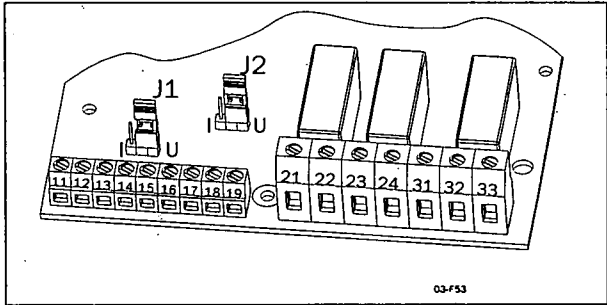

Fig. 38 Setting voltage or current for analogue input.
- 2. Set Jumper J1 on the PCB control card to voltage (U) or current control (I) signal position, see Fig. 38 and Fig. 24 on page 28. Factory setting is voltage (U).